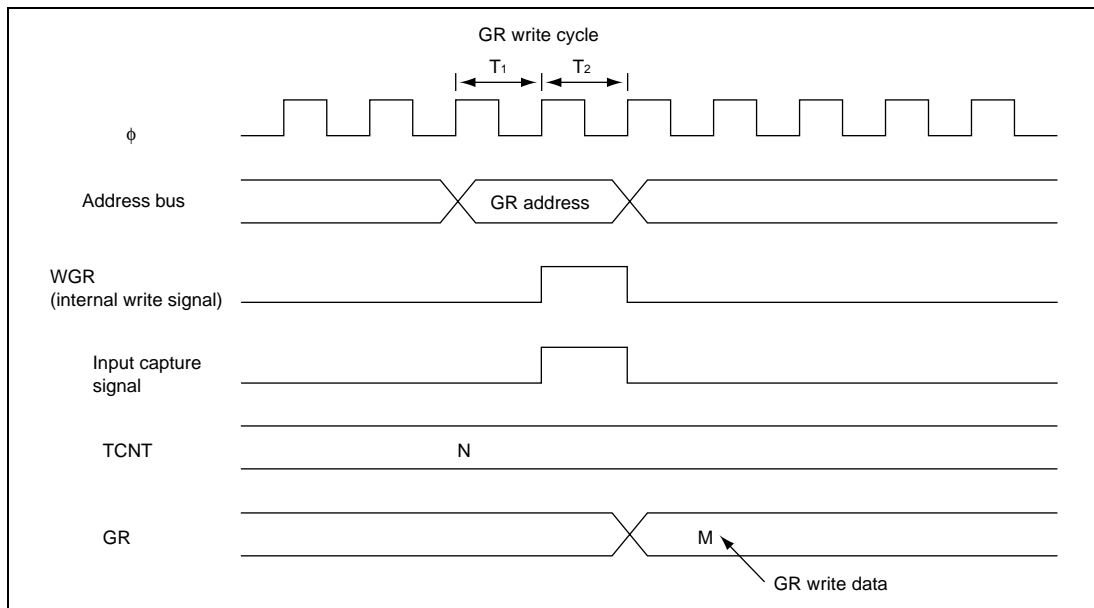

Figure 13.58 Contention between GR Write and Input Capture
7. **Contention between GR Write and Input Capture:** If an input capture signal is generated in the T_2 state of a GR write cycle, the input capture operation has priority and the write to GR is not performed. Figure 13.58 shows the timing in this case.